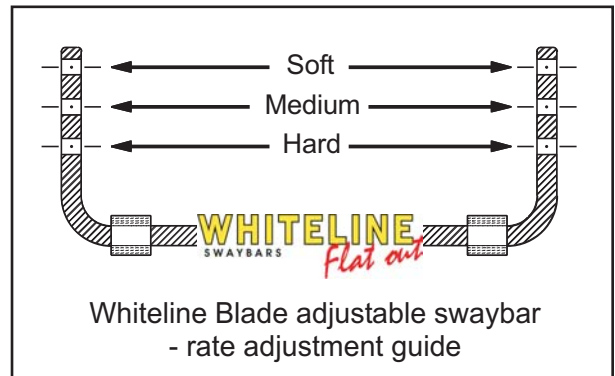

Figure 1.
8. Connect the swaybar to the end-links. For adjustable type swaybars, refer to figure 1 for swaybar adjustment guide.